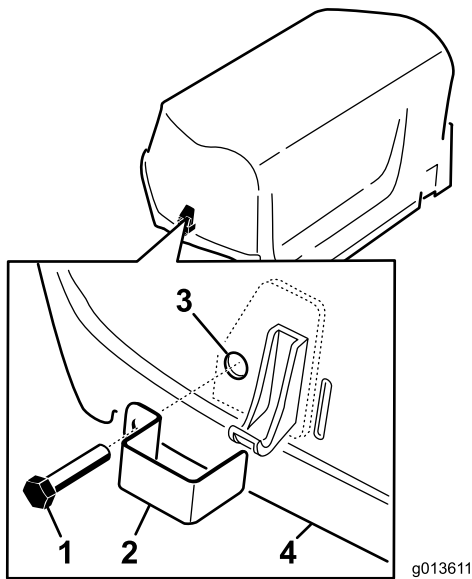

Figure 5
1. Install a latch lock over the left and right hood latches (Figure 5) with a tap bolt (2 total).
2. Using a pliers or adjustable wrench, thread an internal lock washer onto each bolt (1 to 2 threads) to secure the bolts (Figure 5).